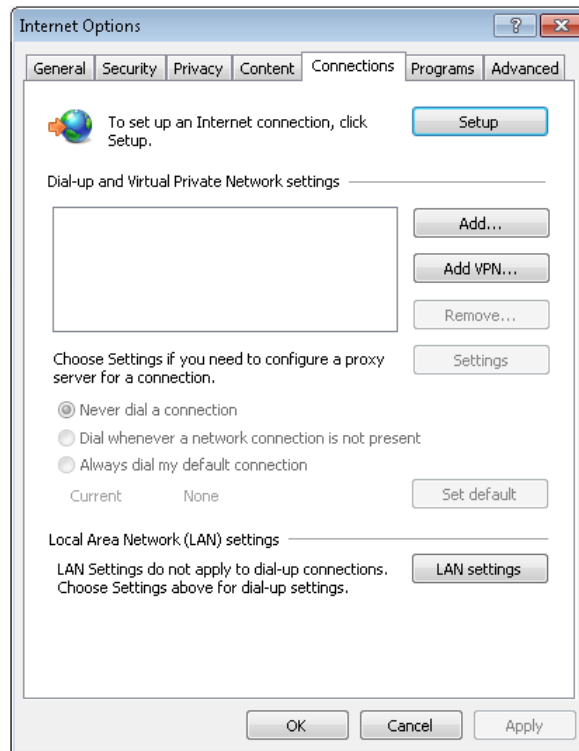
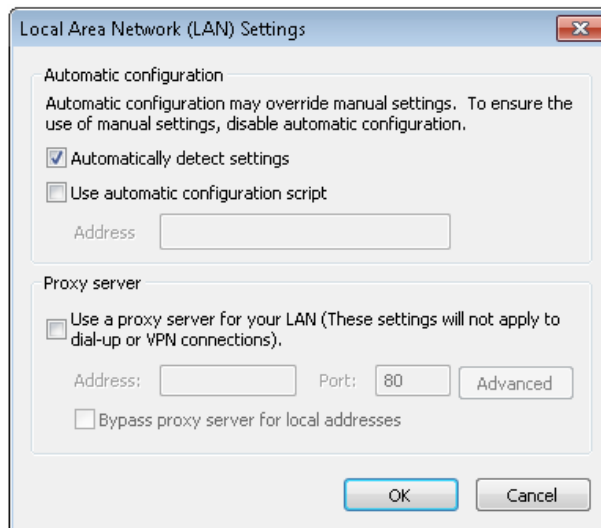

Figure 3-2 Choosing the **Connections** tab
Figure 3-3 LAN setting
1. Double-click the icon of IE to run the software, click the menus of **Tools -> Internet Options** and then choose the **Connections** tab to pop up the window shown in Figure 3-2.
- In the window shown in Figure 3-2, click the button **LAN Settings** to pop up the window shown in Figure 3-3.